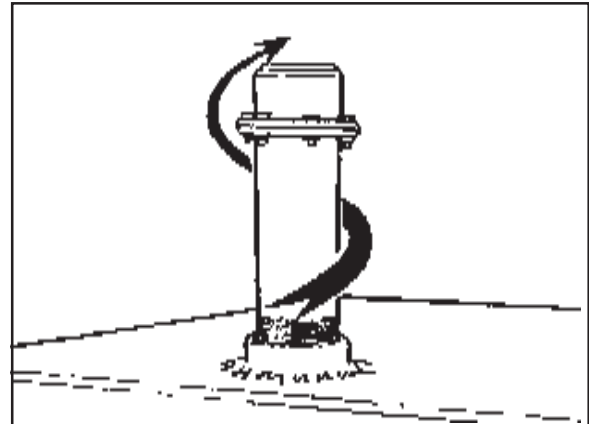

FIGURE 1
2. **Remove Filler Cap.** Remove Filler cap only when ready to fill hydraulic Tank with Oil. Do Not leave the Cap off and the system Open, always keep system closed when possible. Avoid any oil contamination. (See Figure 1)